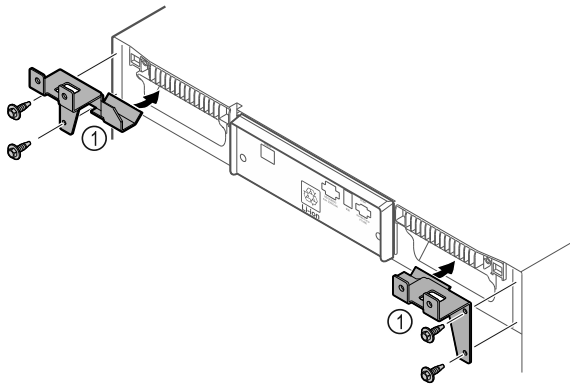

Fig. 12
- Fit the retaining parts Fig. 12 (1) to the device with self-tapping screws.